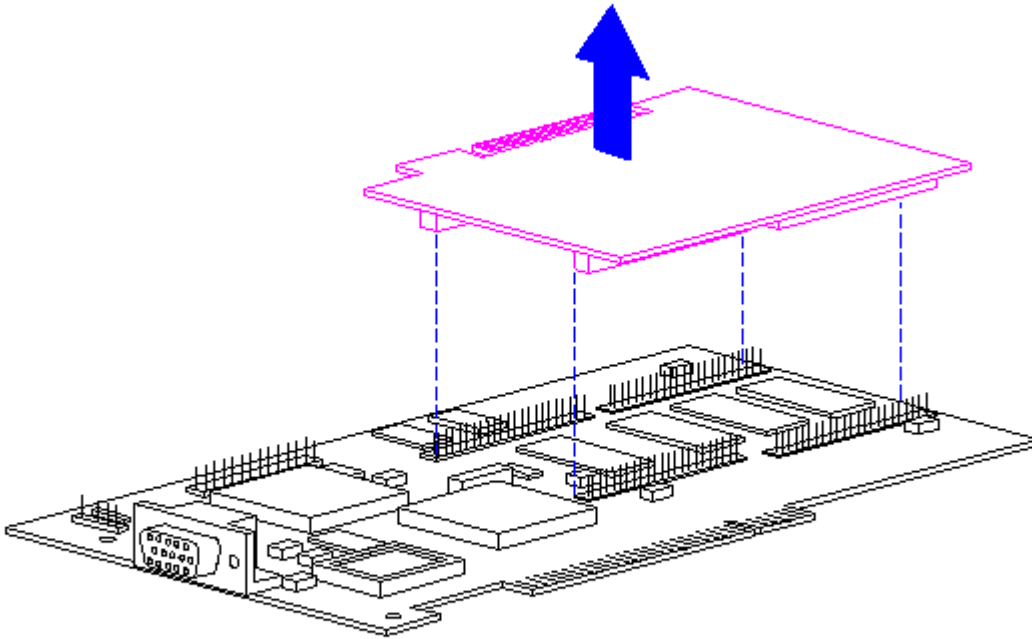

Figure 5-51. Removing the QVision 2000+ VRAM Upgrade Module
4. Remove the video memory board as shown in Figure 5-51.